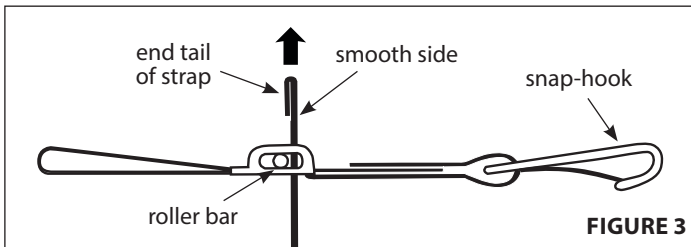

FIGURE 3
2. Feed end tail of strap up through the bottom of the float buckle on the snap-hook side of the roller bar. **SEE FIGURE 3**